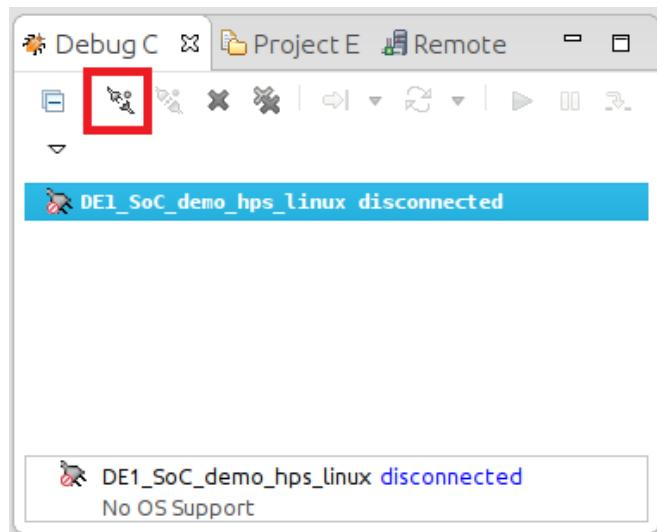

Figure 13-28. Debug Control View
88. In the “Debug Control” view, click on the “DE1_SoC_demo_hps_linux” entry, then click on the “Connect to Target” button, as shown on Figure 13-28. The debugger will start an SSH connection to the linux distribution running on the DE1-SoC and will automatically transfer our binary file and wait at our application's “main()” function. If you are prompted to log in, then log in with the **ROOT** user and password.